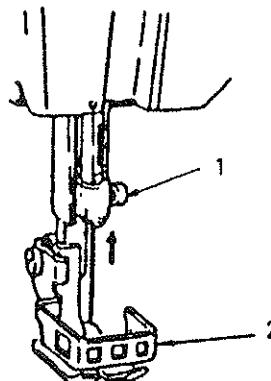

Fig.4.
(2) (See Fig.4)
Loosen needle set screw (1) (See Fig.4) Insert the needle in the needle bar and push it up as far as it will go.